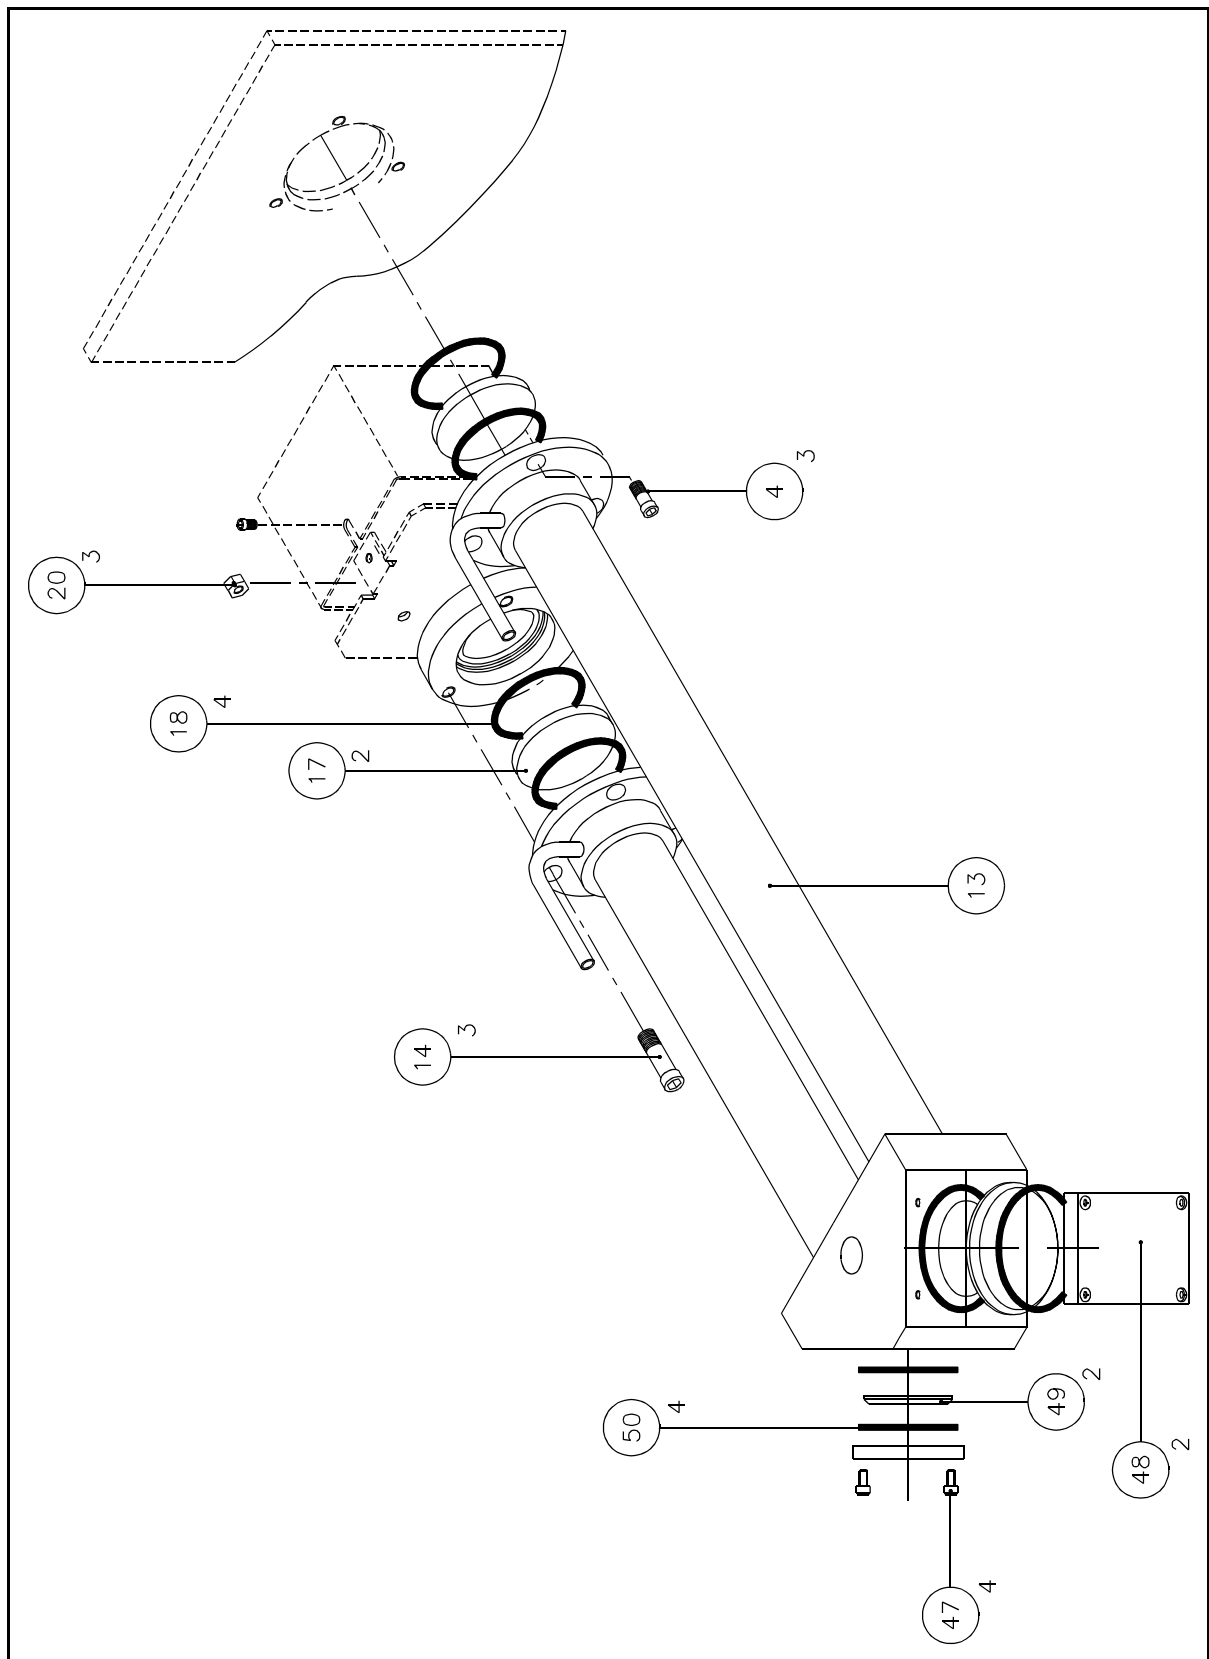

Figure 6.18 High Sensitivity Gfx optical cell assembly
Refer to figure 6.18.
- a) Re-assemble according to figure 6.18 and carefully tighten bezel retaining screws 1/4 turn at a time to avoid stressing the mirror.